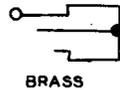

Fig. 1—375A Plug
2.01 375A: The 375A (Fig. 1) is a solid metal plug with the body end grooved to accommodate the 274 tool. The 375A plug is used with the 49- or similar-type jacks. This plug is used to make-busy spare or unused trunks in panel offices.